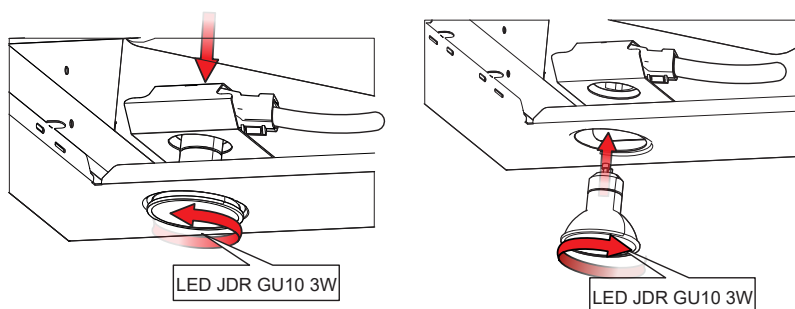

Fig. 8
3. Remove the lighting as shown in Fig. 8